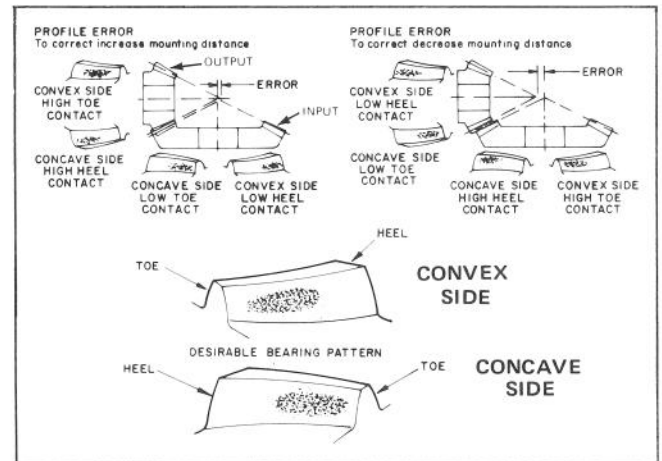

Figure 35
7. Inspect the wear pattern on the gear teeth, compare them to the patterns indicated (Fig. 35). Add or remove shims from output housing to correct any misalignment.